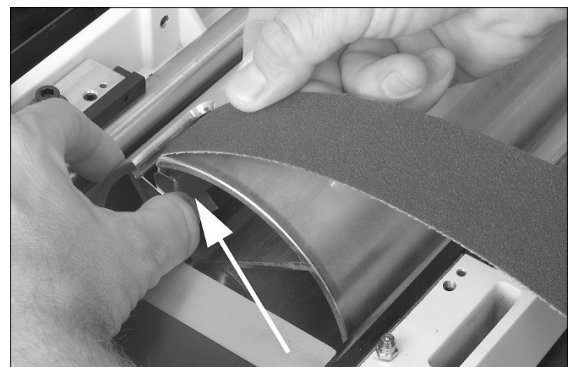

Figure 6-7
1. Press fastener lever (Figure 6-7) on outboard (left) end of drum, and insert tapered end of abrasive through slit in fastener, as shown. Insert approximately 75mm of abrasive strip into fastener. Align tapered edge of abrasive strip with left edge of drum.